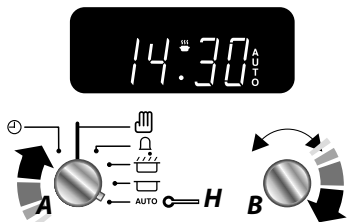

Fig. 2.28
5. When the program starts the Multifunction Oven, the 'Cooking' symbol will appear on the display. Once the specified time has elapsed it will emit an alarm and the Multifunction Oven will stop working. The 'Cooking' symbol on the display will disappear and the word 'AUTO' will flash (**Fig. 2.28**).